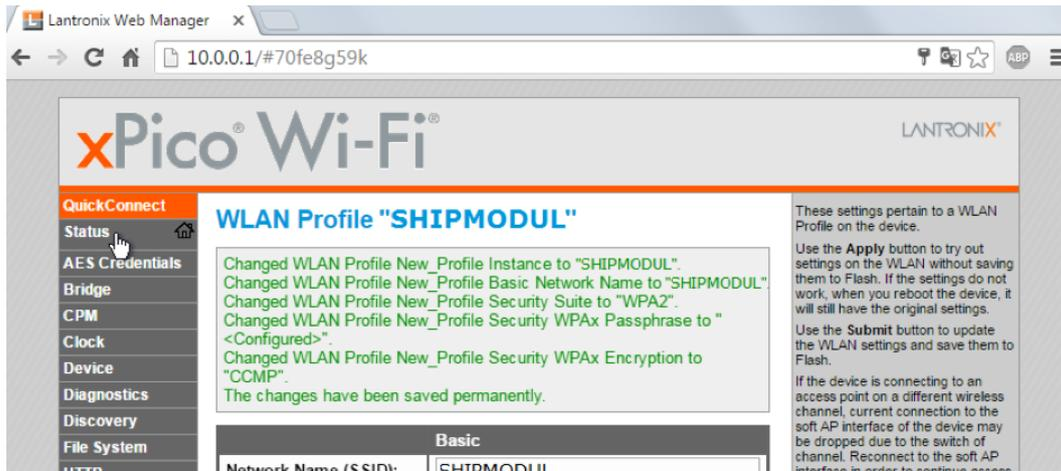

Figure 31
- You will see notifications that all changes are made and saved (Figure 31).
- Go back to the status page by selecting **Status** from the menu on the left (Figure 31)